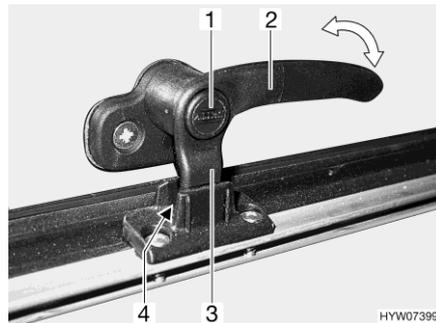
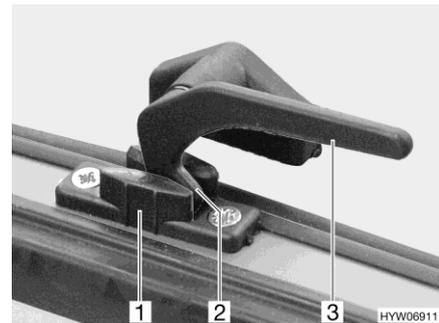

Fig. 82 Catch lever with safety knob in "continuous ventilation" position
Fig. 83 Catch lever in "continuous ventilation" position
- "Continuous ventilation" (Fig. 82 and Fig. 83)
- Press and hold the security button (Fig. 82,1), if present.
- Turn the catch lever (Fig. 82,2 or Fig. 83,3) a quarter turn towards the centre of the window.
- Return the catch lever to its initial position. Move the locking catch (Fig. 82,3 or Fig. 83,2) on the catch lever into the recess of the window catch (Fig. 82,4 or Fig. 83,1).